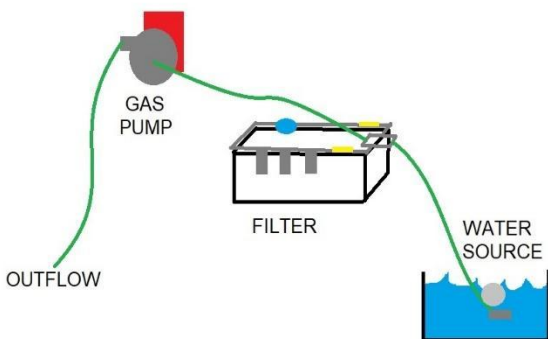

Figure 7. Hose set-up for forward bead spike pump (does not go through 1 um filter).
1. Switch hoses so water no longer goes through the 1 um filter loaded on the frame as seen in Figure 7.